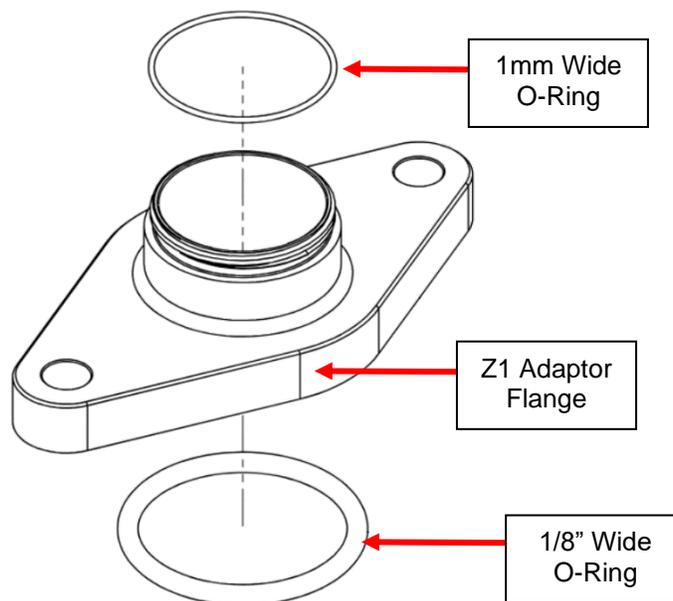

Figure 6
11. Install (1) one 1/8" Wide O-Ring onto bottom of the Z1 Adaptor Flange. Figure 6.